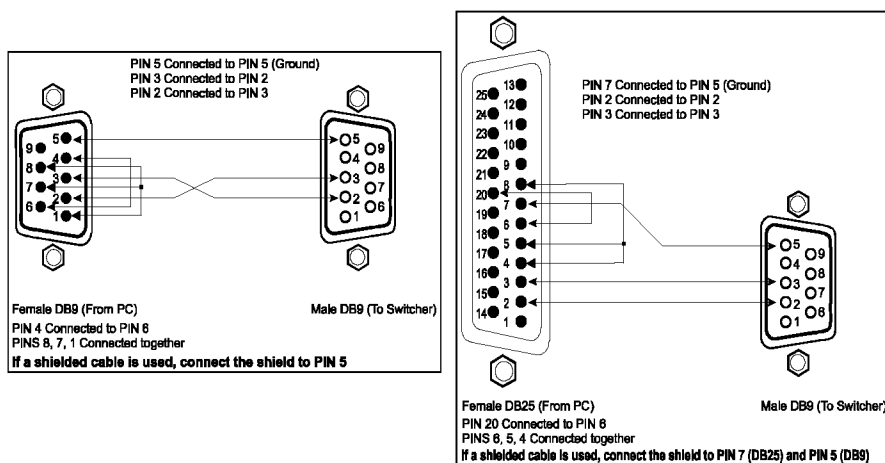

Figure 3: Connecting a PC without using a Null-modem Adapter
- Connect the RS-232 DB9 port on your PC to the RS-232 DB9 rear panel port on the **7408** unit, as Figure 3 illustrates (depending on whether the PC has a 9-pin or 25-pin connector)